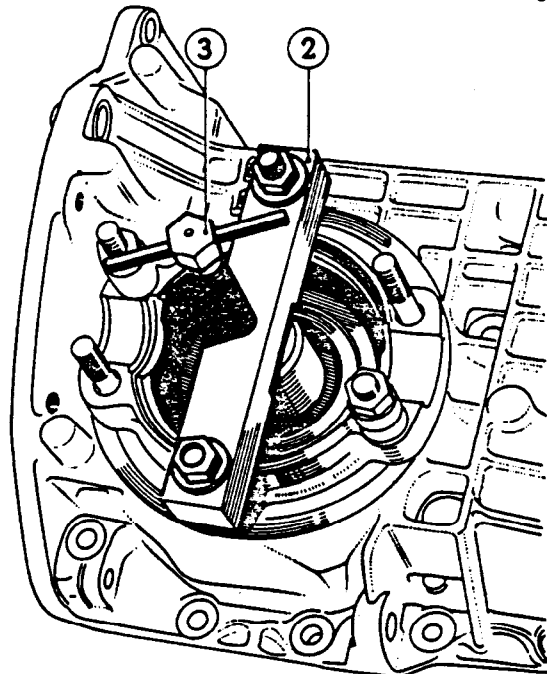

FIG 6:61 Adjusting the differential bearings
- 6 The crownwheel and pinion backlash will next have to be adjusted, this adjustment being carried out by tool T.Ar.63, shown in FIG 6:60. Place a plug in each differential carrier and press home the bearing
Key to Fig 6:61 2 Crossbar 3 Screw